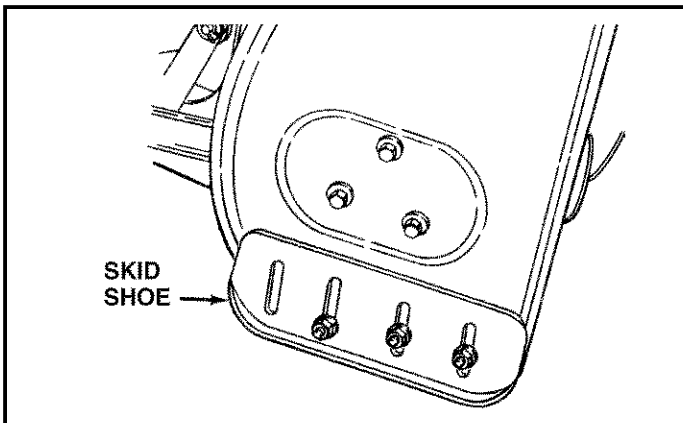

FIGURE 29
CHECK SCRAPER AND SHOES FOR WEAR (Refer to figures 29 and 30 on page 17.)
- Raise the snow thrower off the ground and place a block under each end of the scraper plate. Loosen the six hex nuts securing the skid shoes to the housing. Adjust the skid shoes up or down and retighten the nuts securely. Adjust both skid shoes to the same height to keep the housing and the scraper plate level. See figure 29.